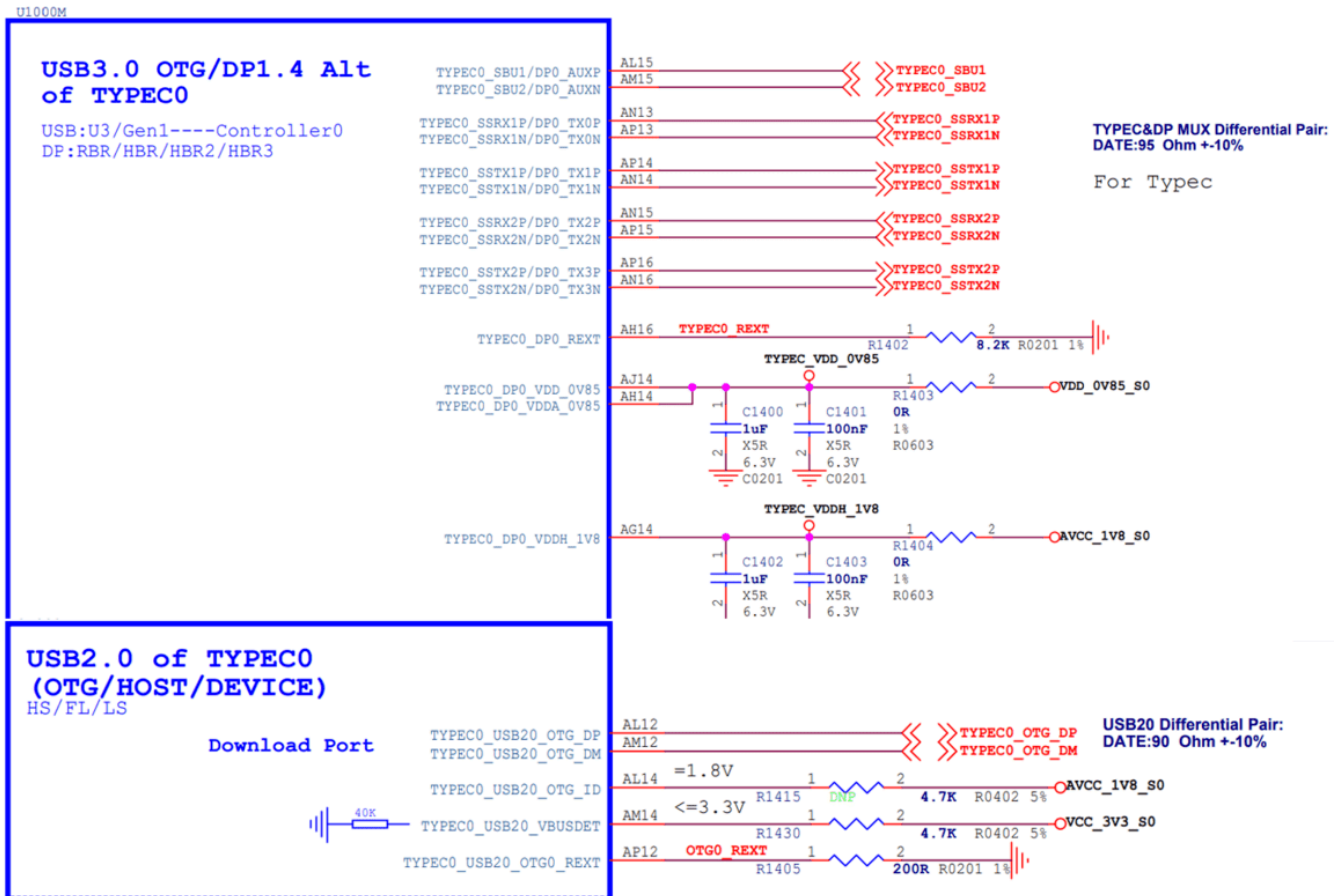

Figure 17 RK3588 Type-C0 Circuit
3. To support high voltage charging functions and reduce the risk of hardware circuits, TYPECO_USB20_VBUSDET should not be connected to the VBUS of the Type-C interface, fixed pull-up to 3.3V is sufficient (as shown in Figure 17 TYPECO_USB20_VBUSDET connected to VCC_3V3_S0), but it must not be left floating;